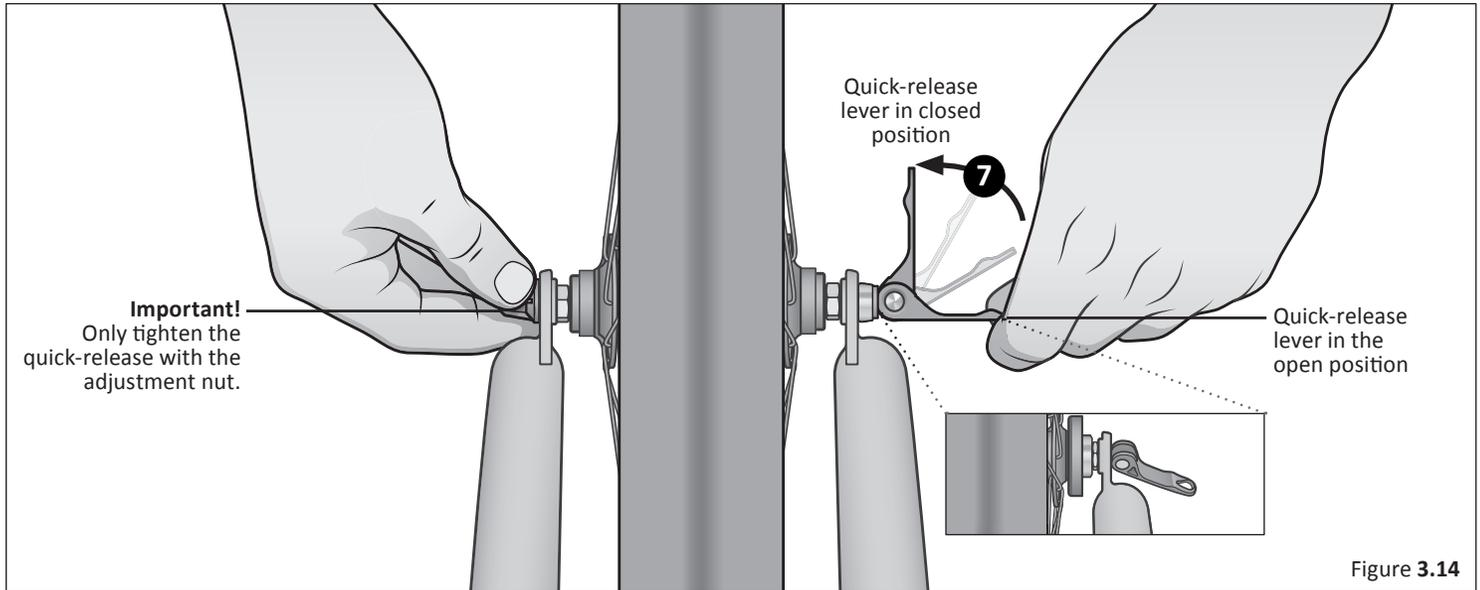

Figure 3.14
- 7 Move the quick-release lever into the **open** position. With one hand on the quick-release lever and one hand on the adjustment nut, start to hand tighten the adjustment nut until you start to feel some resistance against the fork. **Figure 3.14**